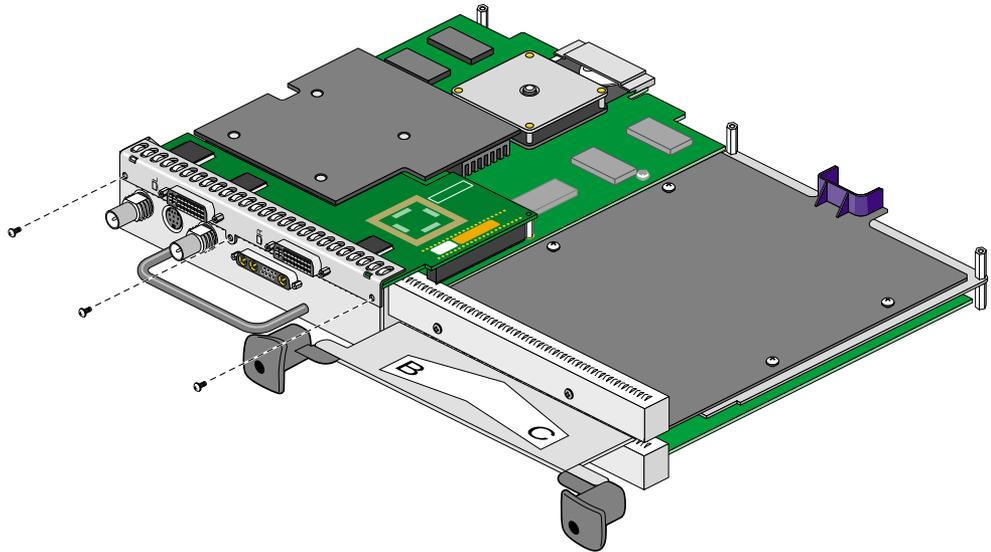

Figure 1-19 Securing the Display Option Board to the VPro Graphics Board
- Secure the Display Option Board to the VPro Graphics Board with the three screws you removed from the blank panel, as shown in Figure 1-19.